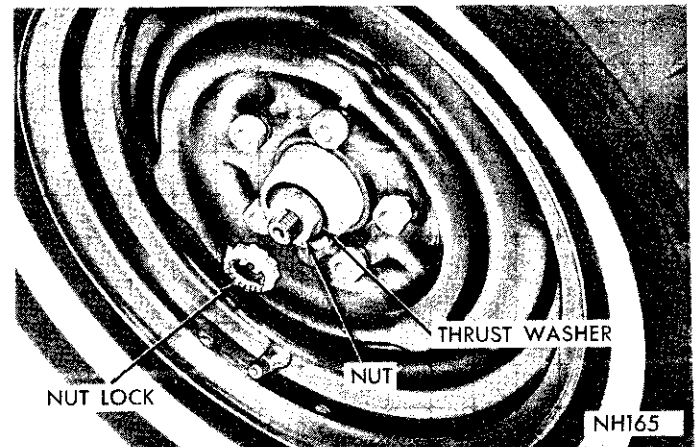

Fig. 35—Front Wheel Bearing Adjustment
- (1) Install wheel and drum assemblies and tighten wheel nuts to 65 foot-pounds.
- (2) Tighten wheel bearing adjusting nut (Fig. 35) to 90 inch-pounds while rotating wheel.
- (3) Position nut lock on adjusting nut so one pair of cotter pin slots align with hole in spindle.
- (4) Back off adjusting nut and nut lock to the next slot and install cotter pin.
- (5) Install wheel covers.